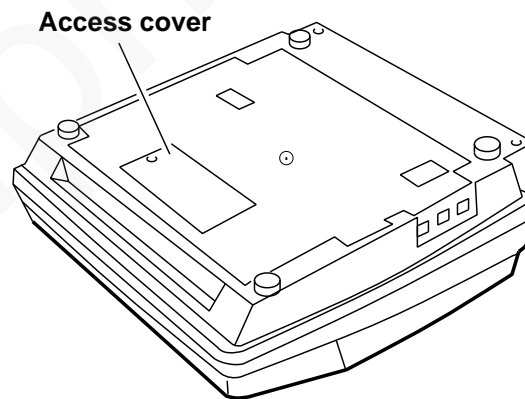

Figure 3. Access cover for EPROMs
4. Remove the plastic rivet from the insert and remove the access cover (Figure 3).